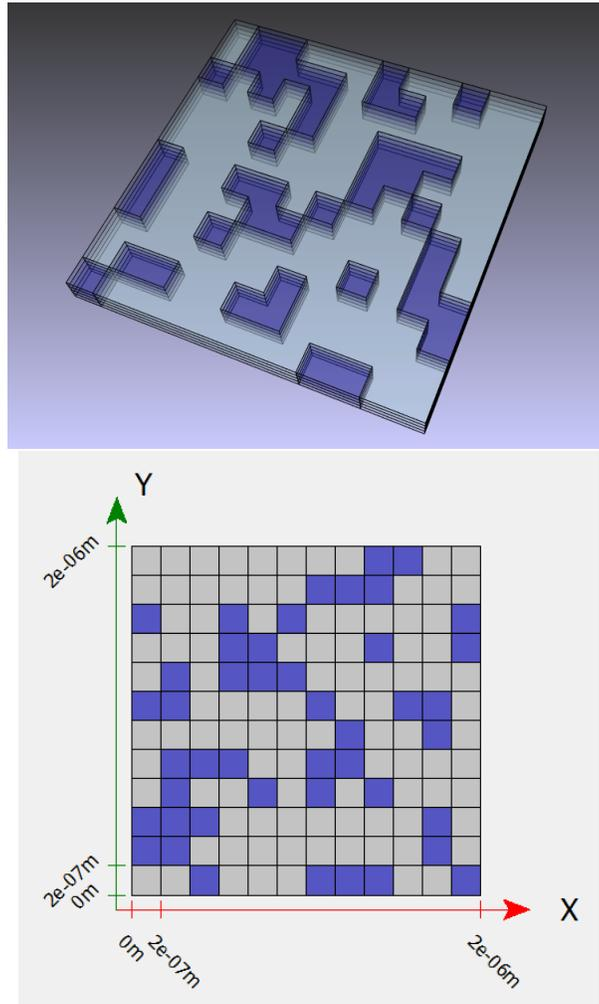

Figure 5: Layer Stackup View After Optimization(top), Pattern View (Bottom)
25. Now that the optimization is ready to run, right-click **GeneticAlgorithm1** in the **Model Hierarchy** and select **Run**. Our run of the optimization produced the unit cell depicted in Figure 5.